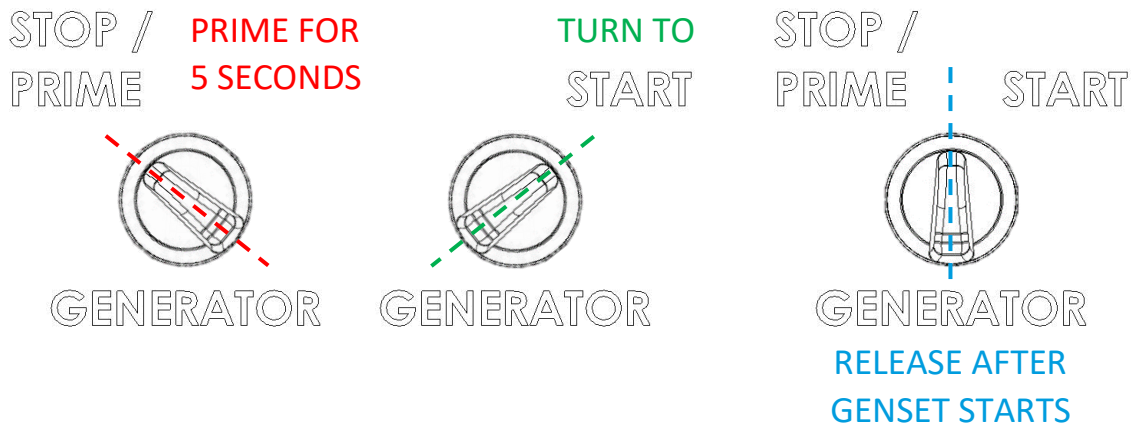

Figure 56: Prime & Start Process
- 3) Turn the GENERATOR switch to its STOP/PRIME position and hold for 5 seconds – during this time the fuel pump should audibly build fuel pressure to the genset. Turn the GENERATOR switch to its START position and hold until the genset starts. Allow the switch to spring back to its middle position, as in Figure 56.